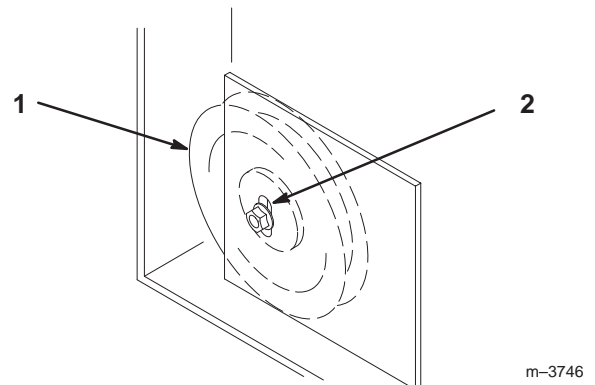

Figure 64
9. If an adjustment is required, loosen the fixed idler on the right support plate and move it up or down in the adjustment slot (Fig. 64). To relieve the belt tension, lift up on the spring loaded idler.